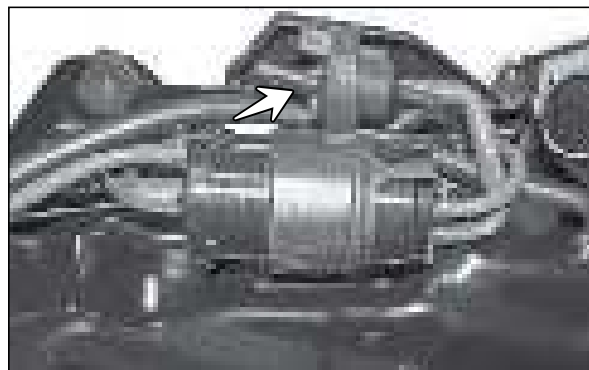

Fig. 5.60
- Purge valve is fitted below the fuel tank assembly along with the canister. (Fig. 5.60)